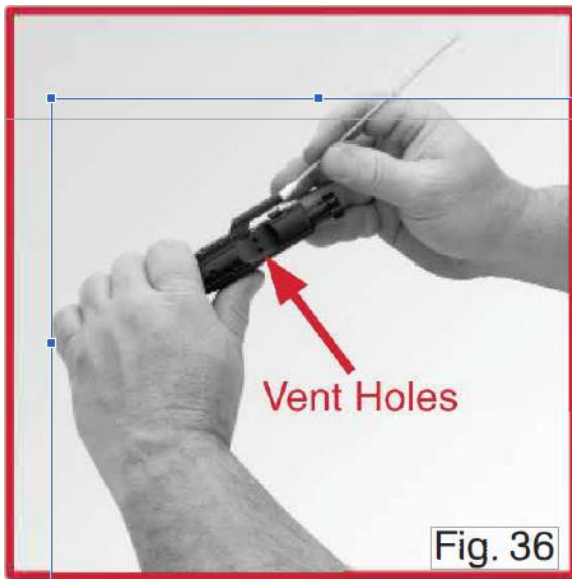

Fig. 36
4. Clean out the gas key and carrier vent holes with a cotton swab (Fig. 36).